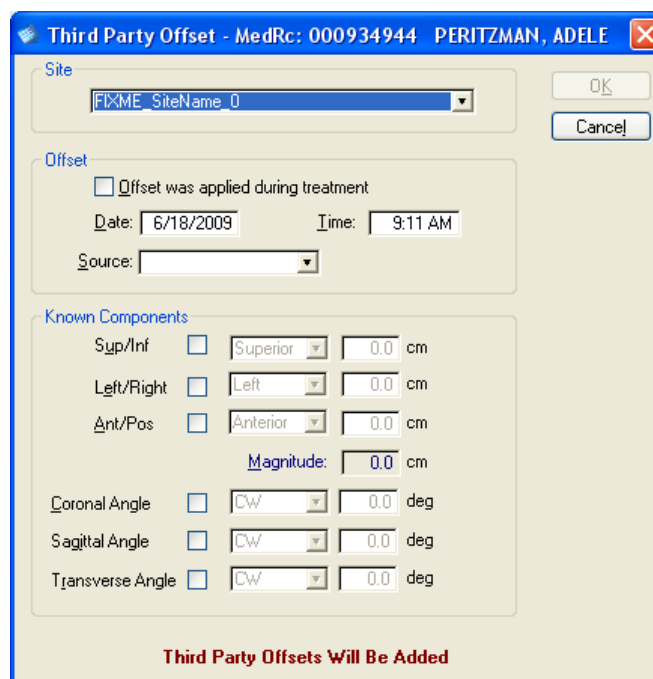

Figure 57: Third Party Offset Dialog Box
1. Right-click or press **F4** in the Treatment Delivery Table window or the Verified Port or Verified Treatment dialog boxes, then click **Record Third Party Offset...** to open the Third Party Offset dialog box. Refer to Figure 57.